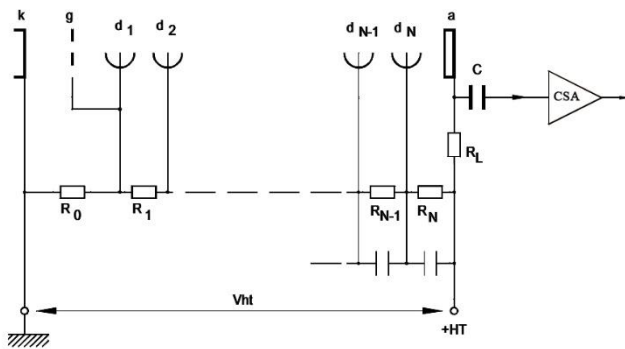

Fig.4. u-CSA & PMT with **positive** power supply connection diagram.
(1) If use the PMT with a positive power supply, MANDATORY use high voltage DC blocking capacitor, see Fig. 4.